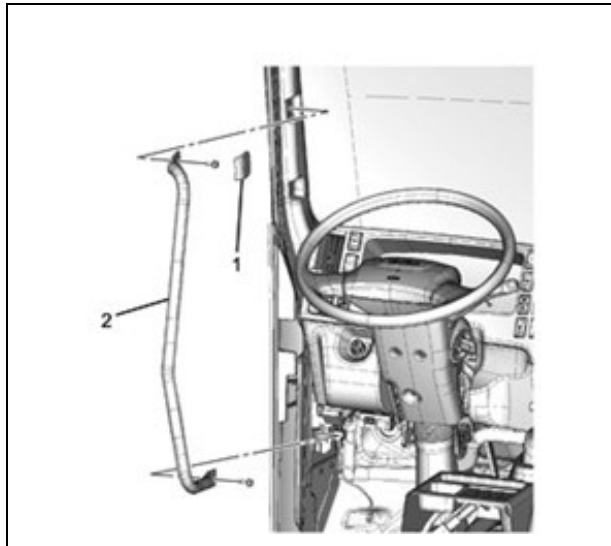

Figure 50
50. Open the assist handle upper cover using a flathead screwdriver and remove the upper bolt. Then remove the lower bolt of the assist handle and remove the assist handle from the front pillar. (See Figure 50.)